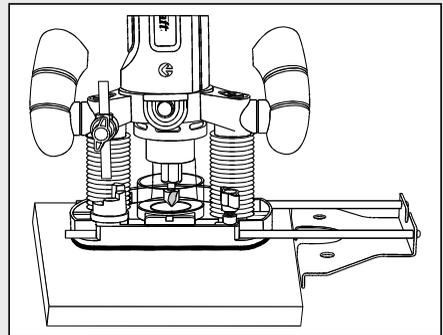

Fig. 23
2. Place the router base on the workpiece with the straight edge guide against the edge to be ripped (Fig. 23).